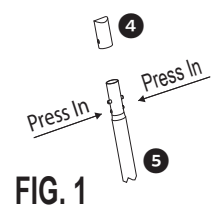

FIG. 1
5. Carefully unfold the Quick Set® pool liner ❶ and inspect seams for manufacturing defects. With the inflatable ring on the top side, lay out the pool in the area selected, making sure the pool bottom is both flat and oval-shaped. Position the intake / outlet fitting holes in pool wall so they are 10 to 21 feet from the electrical outlet you plan to use for the pool pump. Pull out the four rectangular flaps (two on each side) from the base of the liner, which will be used for the U-shaped Pipes.
6. Locate the four U-Shaped Pipes ❷. Insert the eight Pipe Caps ❸ onto the ends of the pipes, slightly rotate until the lock buttons click in place (Fig. 1). Then place two pipes on each side of pool, near the rectangular flaps.